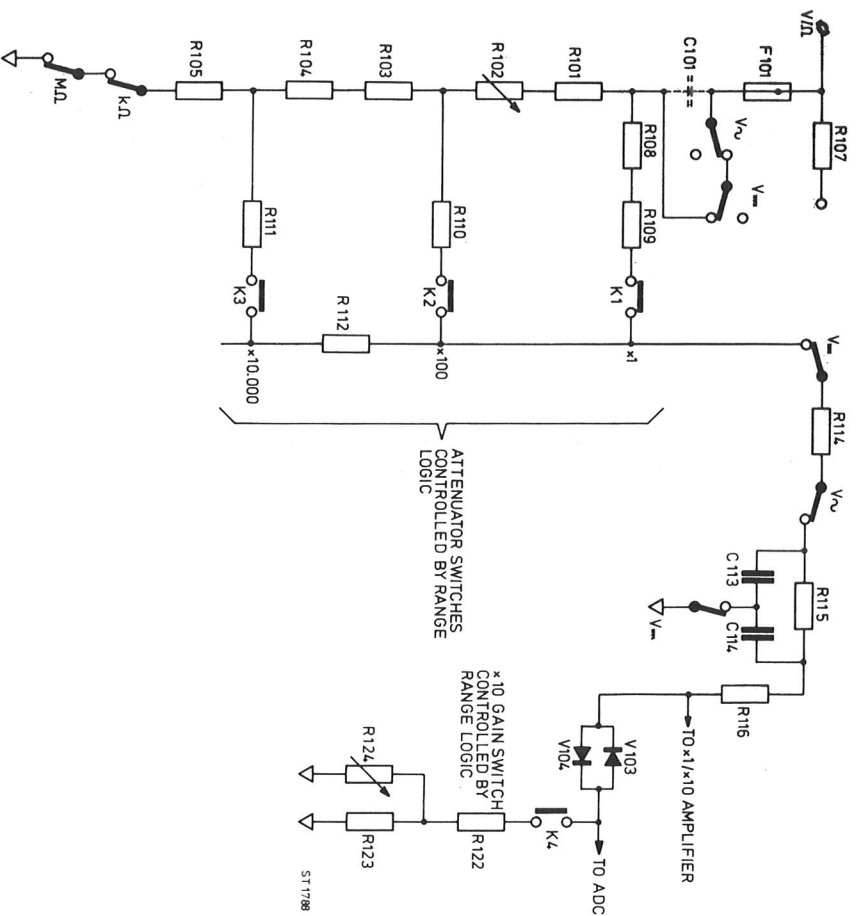

Fig. 12. Input circuit for d.c. voltage
7.1.1.2. D.C. voltage circuit (Fig. 12, page 47)